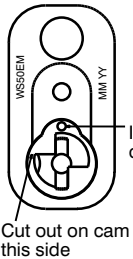

Fig. 2
5. Insert the Module screw (identified by the pink Coating on the thread) through the body and tighten to hold the module in place (fig 2)